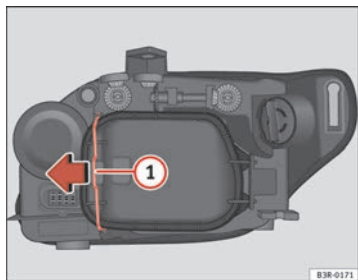

Fig. 220 Side light
Although it is not necessary, previously remove the rigid cover ⇒ page 279, fig. 220 for easier day light bulb changes. ■
- Move the brace ⇒ fig. 220 ① in the direction of the arrow and remove the rigid cover, separating the brace side and then removing the two tabs from the other end of the cover.